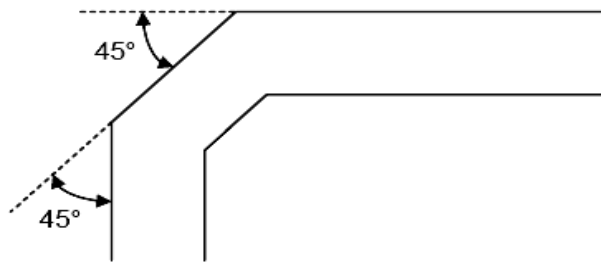

Figure 5-31 Bend example
- For high-speed signals, it should minimize the number of corners and vias. If a 90° bend is required, it is recommended to use two 45° bends instead. Please see Figure 5-31 for an example.